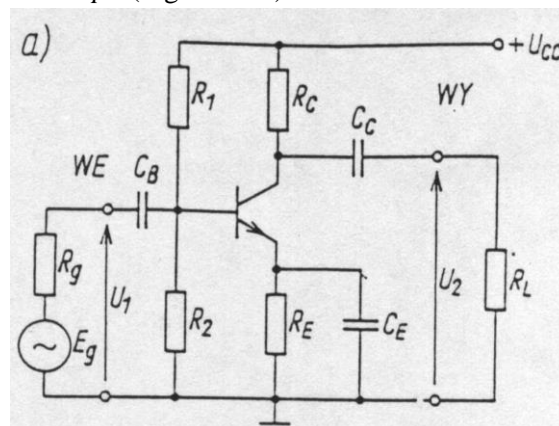

Fig. 8.5.10. Diagram of the amplifier in the EC circuit
The simplest amplifier built on a single transistor is the common emitter (EC) amplifier, which consists of one bipolar transistor. *npn* (Fig. 8.5.10.).